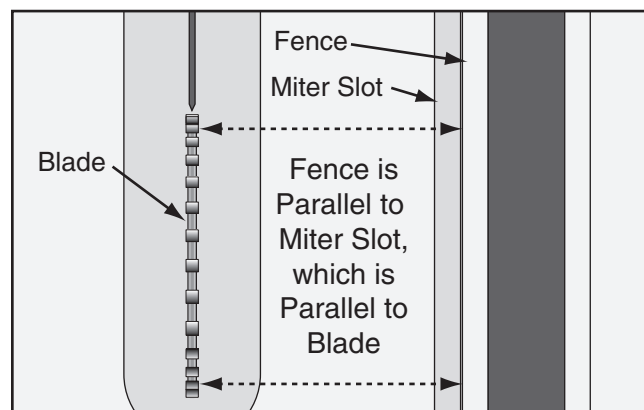

Figure 124. Checking fence parallelism with blade.
2. Slide fence against right edge of miter slot, lock it in place, then raise blade fully. Using a ruler, examine how fence lines up with miter slot and blade (see **Figure 124**).